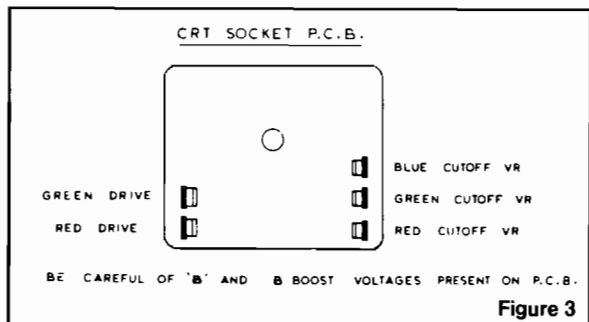

Figure 3
1.5 Turn off the green and blue fields and adjust set-up controls to produce a red field. (See Fig. 3)
Refer to figure 3. Do the following in subdued light: